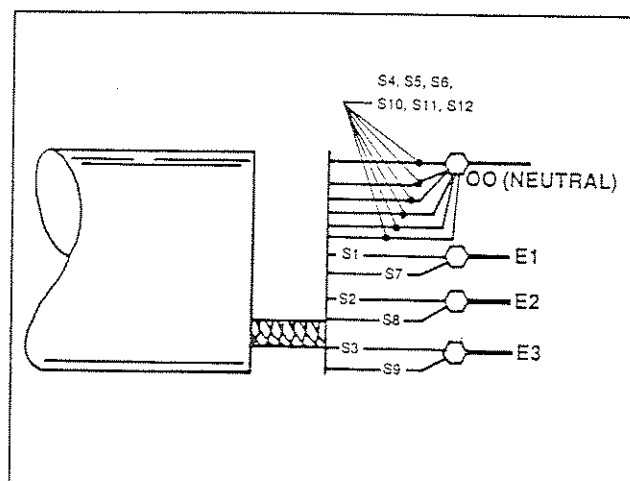

Figure 3. Bolted Junctions- Voltage Code "B"
These units are rated 120/208 volts, 3-phase, 60 Hz. The stator's AC power winding is a "parallel wye" type as shown in Figure 2. The winding consists of six (6) coils, with twelve (12) leads brought out into the generator's AC connection (lower) panel. The leads are numbered S1 through S12. The twelve leads are connected together by means of "bolted" junctions, as shown in the following chart, to form Lines E1, E2, E3 and "neutral" (00). Also see Figure 3.